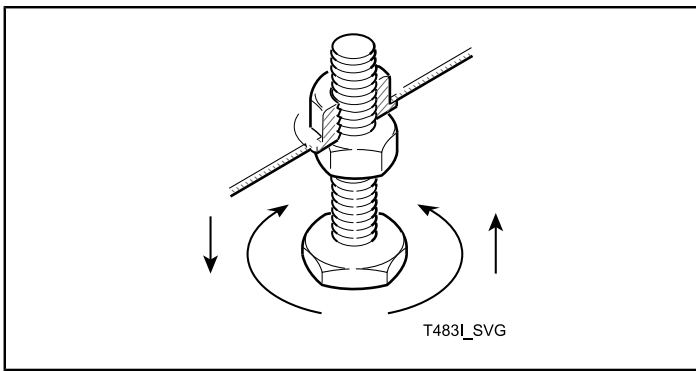

Figure 3
5. Slide tumble dryer to its permanent location. Adjust the leveling legs until the unit is level, or no more than 0.125 inch (3.18 mm) higher in the front. Refer to *Figure 3*. Tumble dryer must not rock. Lock leveling legs with nuts previously installed.